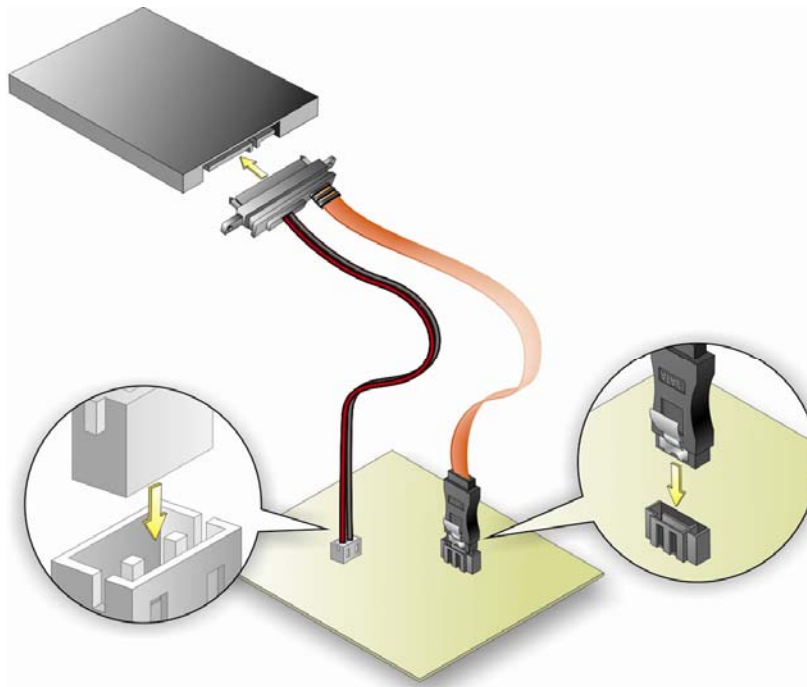

Figure 4-18: SATA Drive Cable Connection
Step 2: Insert the cable connector. Insert the cable connector into the on-board SATA drive connector and the SATA power connector. See **Figure 4-18**.
Step 3: Connect the cable to the SATA disk. Connect the connector on the other end of the cable to the connector at the back of the SATA drive. See **Figure 4-18**.